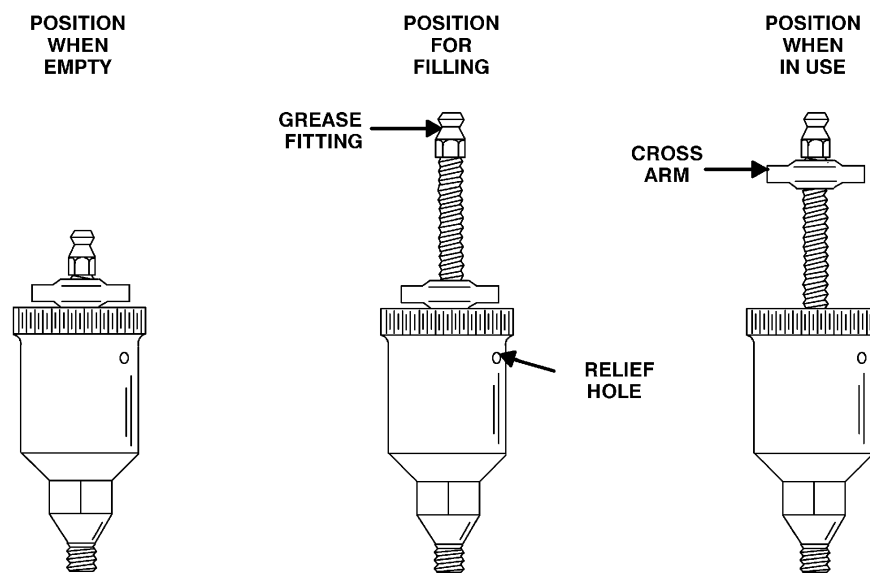

Figure 5. Automatic Lubricating Grease Cup
Before removing the impeller, turn the cross arm on the automatic grease cup (13) clockwise until it rest against the cover (see Figure 5). This will prevent the grease from escaping when the impeller is removed.
Fill the grease cup (13) through the grease fitting with No. 2 lithium base grease until grease escapes from the relief hole. Turn the grease cup arm counterclockwise until it is at the top of the stem; this will release the spring to apply grease to the seal (see Figure 5).